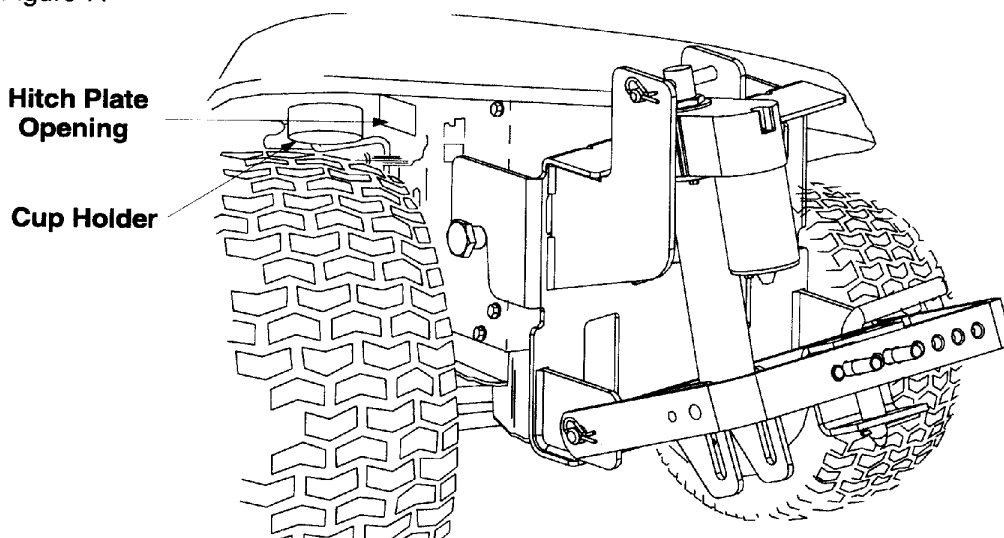

Figure 7
6. Once the battery and battery tray have been removed, route the harness up the side of the hitch plate and through the opening in the left side of it. The opening can be found to the right of the cup holder. See Figure 7.